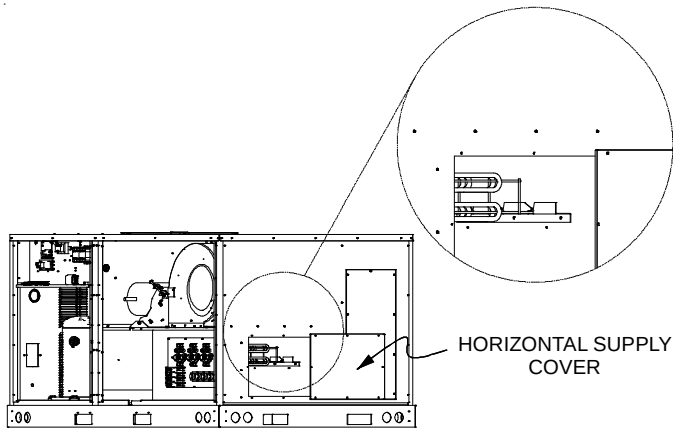

Figure 2
7. Install Heater Kit in opening using screws from heater box cover. Ensure the elements are positioned in the retaining bracket as shown in Figure 2. It may be necessary to remove the horizontal supply cover to observe the bracket. The heater box cover can be discarded.